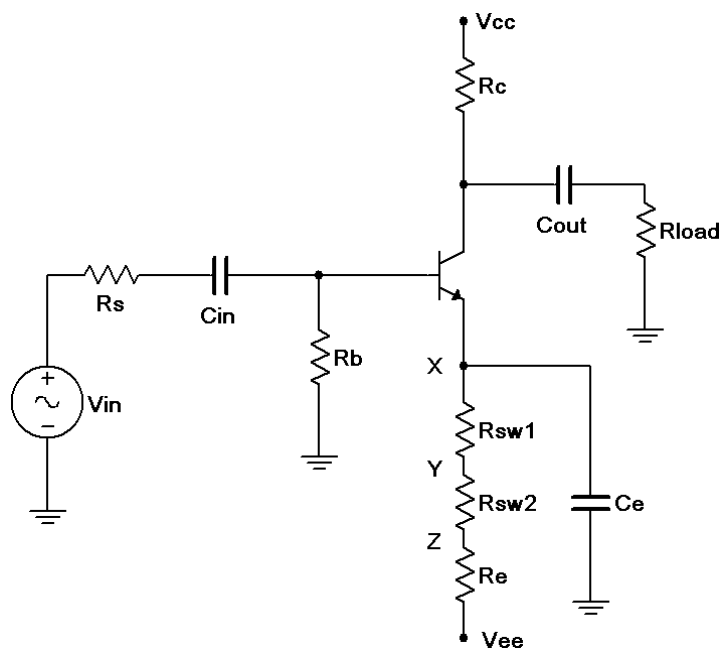

Figure 1
1. Consider the circuit of Figure 1 using $V_{cc} = 15$ volts, $V_{ee} = -12$ volts, $R_s = 10$ k Ω , $R_b = 33$ k Ω , $R_e = 22$ k Ω , $R_{sw1} = 220$ Ω , $R_{sw2} = 1$ k Ω , $R_c = 15$ k Ω , $R_{load} = 20$ k Ω , $C_{in} = C_{out} = 10$ μ F and
2. Build the circuit of Figure 1 using $V_{cc} = 15\text{ volts}$, $V_{ee} = -12\text{ volts}$, $R_s = 10\text{ k}\Omega$, $R_b = 33\text{ k}\Omega$, $R_e=22\text{ k}\Omega$, $R_{sw1} = 220\ \Omega$, $R_{sw2} = 1\text{ k}\Omega$, $R_c = 15\text{ k}\Omega$, $R_{load} = 20\text{ k}\Omega$, $C_{in} = C_{out} = 10\ \mu\text{F}$ and $C_e=470\mu\text{F}$. Connect C_e to position X. Disconnect the signal source and check the DC transistor voltages to ensure that the circuit is biased correctly (note, the DC equivalent circuit is very similar to the ones used in the Emitter Bias Exercise and should exhibit similar DC voltage readings).